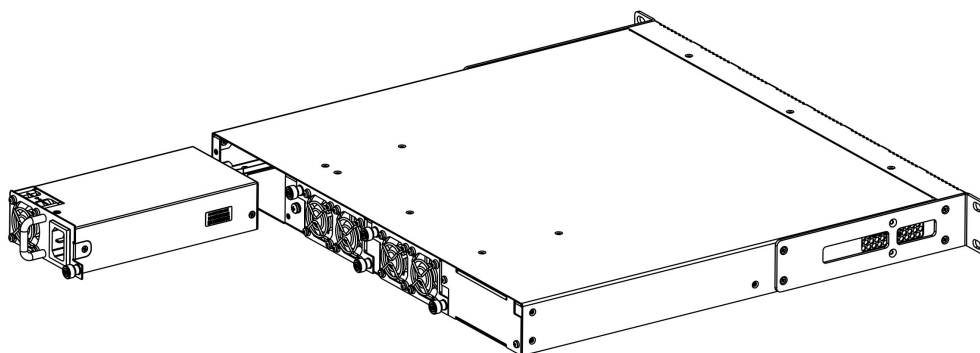
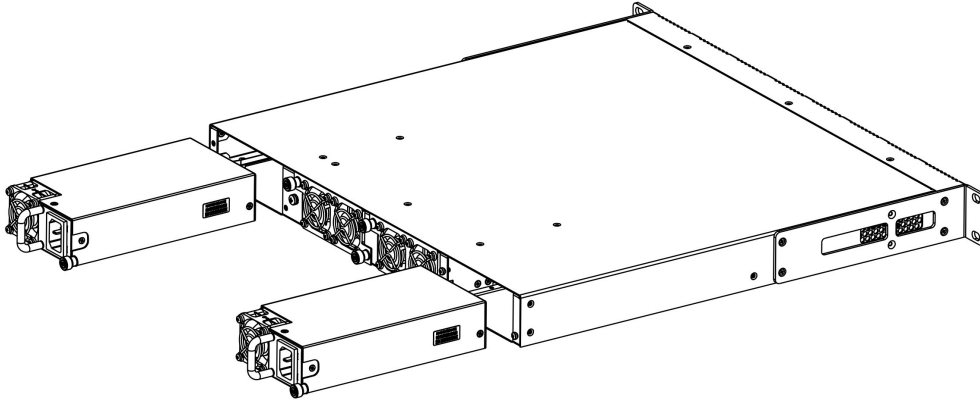

Figure 15 – Power module installation for LTX-8(16)
Figure 16 – Power modules installation for LTX-8(16)
Depending on power supply requirements, LTX-8 and LTX-16 can be supplemented with either 220 V, 50 Hz AC power module or 48 V DC power supply module. Location of the power module is shown in Figure 15.
- **Step 1.** Install the power module into the socket shown in Figure 15 or Figure 16.